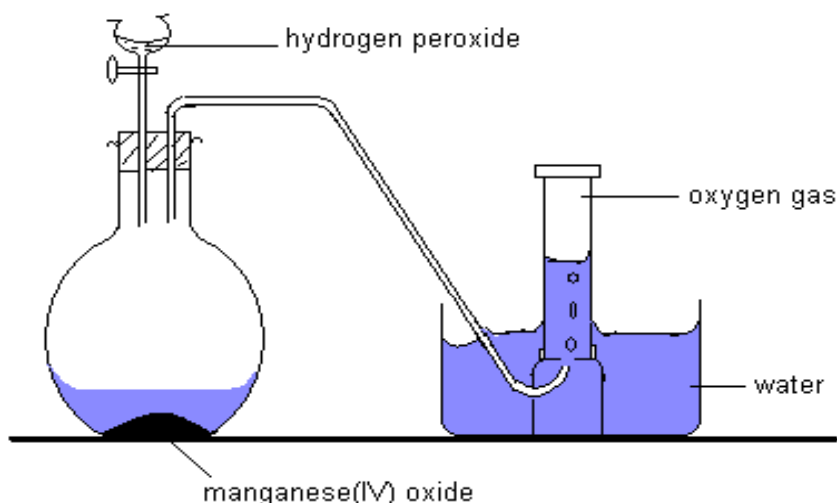

Figure 5.2: Preparation of oxygen gas
1. Place four spatula end-fulls of manganese(IV) oxide in the flat-bottomed flask.
2. Arrange the apparatus as shown in Figure 5.2